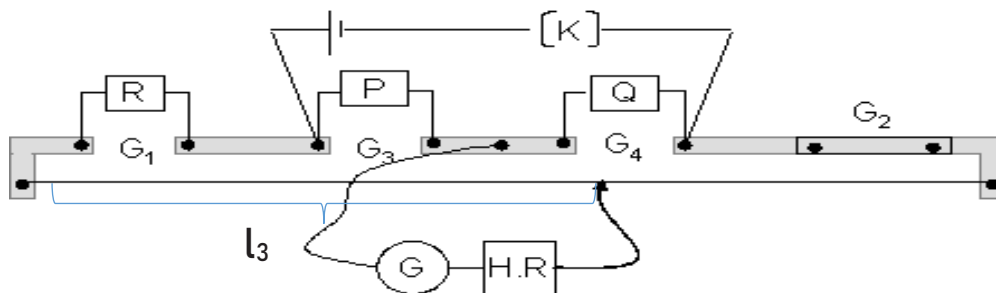

Fig 1- R in the left gap and the right gap shorted
- Connections are made as shown in the Figure 1. P and Q are two equal resistances.